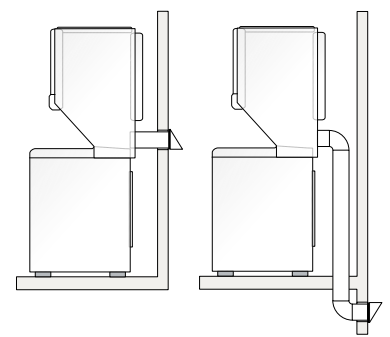

Figure 7
**B.** For mobile home installation, the dryer **must** be exhausted to the outside using metal ducting that will not support combustion. The termination must be securely fastened to the mobile home structure. Follow all other exhaust requirements referred to on Page 3. Under no conditions may the dryer exhaust duct terminate beneath the mobile home. See Figure 7.